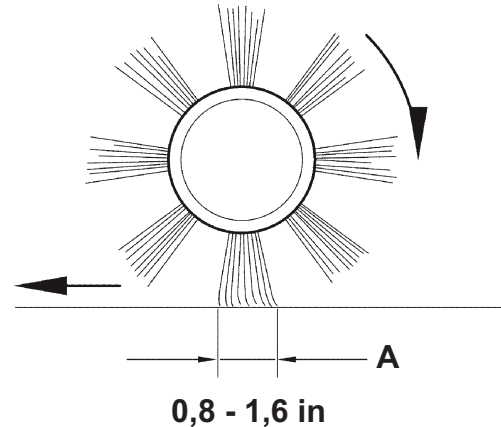
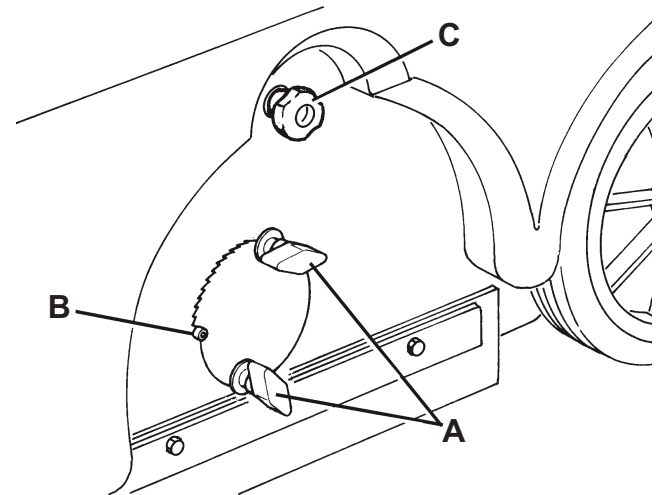

Figure 2
Figure 3
- Check that the main broom print (A, Fig. 2), along its length, is 0.8 to 1.6 in (20 to 40 mm) wide.
- If the print (A) is not within specifications, adjust the broom height as shown in step 2.
3. Turn the ignition switch (72) to "0".
4. Loosen the knobs (A, Fig. 3) on both sides of the machine.
5. On both sides of the machine, loosen the knobs (A) and move the broom height variation indicator (B) as necessary, then tighten the knobs (S).
6. The indicator (B) must be in the same position on both sides of the machine; the maximum difference allowed to obtain the print (A, Fig. 2) shown in step 1 (0.8 – 1.6 in (20 – 40 mm) wide) is two notches.